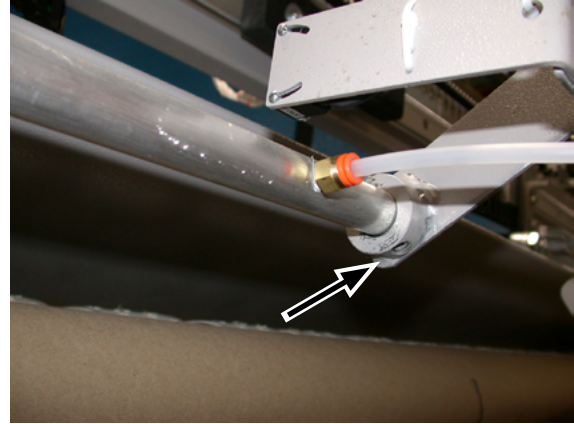

Figure 7-33: Be sure to keep track of all air valve
3. Carefully disassemble the valve (Figure 7-33). Be careful with the small parts.
5. Reassemble the valve. Make sure that both the large (A) and small (B) O-rings are correctly positioned.